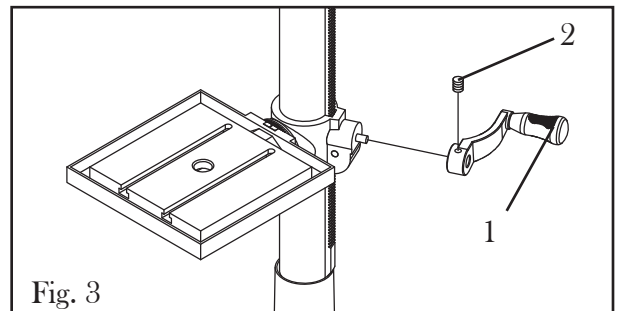

Fig. 3
3. Install the table adjustment crank (Fig. 3 - 1). Secure it in place by tightening the set screw (Fig. 3 - 2). This handle will control the height of the drill press table.